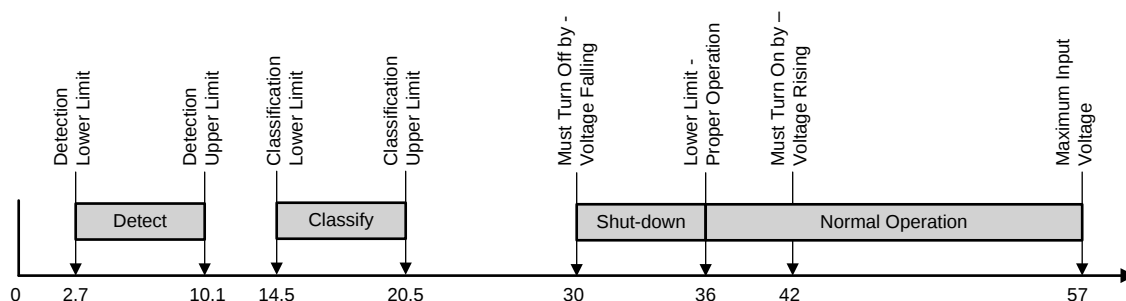
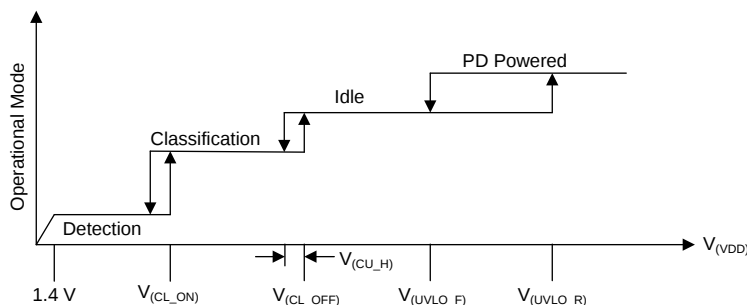

Figure 11. IEEE 802.3 PD Voltage Limits
Figure 12. Threshold Voltages
The TPS2376-H incorporates an undervoltage lockout (UVLO) circuit that monitors line voltage to determine when to apply power to the downstream load and allow the PD to power up. The IEEE 802.3af specification dictates a maximum PD turn on voltage of 42 V and a minimum turn-off voltage of 30 V shown in Figure 12. The UVLO pin provides the flexibility to adjust the turn on and turn off to the IEEE 802.3af limits, or a custom set. Design the turn-on for 39.5 V if a design which uses the IEEE 802.3af limits is desired.
The IEEE 802.3af specification defines a process for safely providing power over an ethernet cable when a capable device is connected, and then removing power if it is disconnected. The process proceeds through three operational states: detection, classification, and operation. An unterminated cable is not powered. The PSE periodically probes the cable with low voltage, looking for a 25 k Ω signature; this is referred to as detection. The low power levels used during detection are unlikely to cause damage to devices not designed for PoE. If a valid powered device (PD) signature is present during detection, then the PSE may optionally inquire about the amount of power the PD requires; this is referred to as classification. The PD may return a default full-power signature, or one of four other defined choices. In a high-power system, class may not be required, or the levels may be redefined to suit that particular system. The PSE may use the class power to determine if it has adequate power to operate this device, and later to determine if a device is using more power than it requested. At this point in the process, the PSE may choose to power the PD. The PSE output is protected against shorts and overloads when the PD is powered. The maintain power signature (MPS) is presented by the powered PD to assure the PSE that it is present. The MPS is either a minimum dc current, a maximum ac impedance, or both. When the MPS disappears, the PSE removes power and returns to its initial state. Figure 11 shows the operational states as a function of PD input voltage range as defined in IEEE 802.3af.
In order to implement the defined PoE functions shown in Figure 11, the TPS2376-H has a number of internal comparators with hysteresis for stable switching between the various states. Figure 12 relates the parameters in the Electrical Characteristics section to the PoE states. The mode labeled *idle* between classification and PD powered implies that the DET, CLASS, PG, and RTN pins are all high impedance.
The classification process applies a voltage between 14.5 V and 20.5 V, for a maximum of 75 ms, to the input of the PD, which in turn draws a fixed current set by $R_{(CLASS)}$. An 802.3af PSE measures the PD current to determine which of the five available classes shown in Table 1 that the PD is signaling. The total current drawn from the PSE during classification is the sum of bias currents and current through $R_{(CLASS)}$. The TPS2376-H disconnects $R_{(CLASS)}$ at voltages above the classification range to avoid excessive power dissipation see Figure 11 and Figure 12.